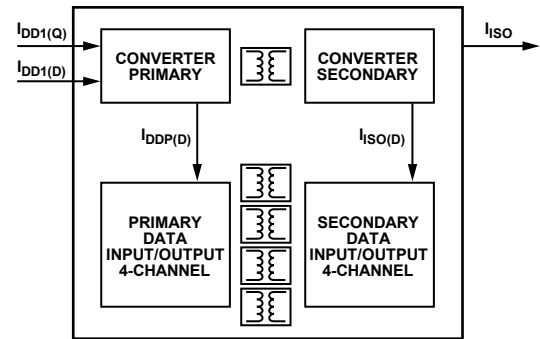

Figure 31. Power Consumption Within the ADuM640x
The VDD1 power supply input provides power to the iCoupler data channels as well as to the power converter. For this reason, the quiescent currents drawn by the data converter and the primary and secondary input/output channels cannot be determined separately. All of these quiescent power demands are combined into the IDD1(Q) current shown in Figure 31. The total IDD1 supply current is the sum of the quiescent operating current, the dynamic current IDD1(D) demanded by the I/O channels, and any external IISO load.